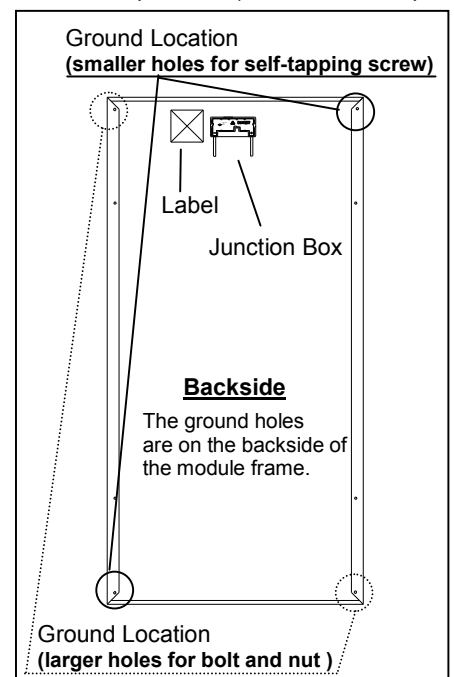

Figure 3.1
- Each ledge on the module frame has two smaller holes for self-tapping screws (0.165" diameter (4.2 mm)) and two larger holes for bolts (0.205" diameter (5.2 mm)). These ground holes are marked with a "G" adjacent to their location on the frame rail (see Figure 3.1). Ground wires must be connected to the module's metal frame at one of these locations.
Method 1- Use a self tapping screw (see Figures 3.1 and 3.2)
Method 2- Use a bolt and nut (see Figures 3.1 and 3.3)
Note: Use the smaller ground holes illustrated in Figure 3.1.
Note: Use the larger ground holes illustrated in Figure 3.1.